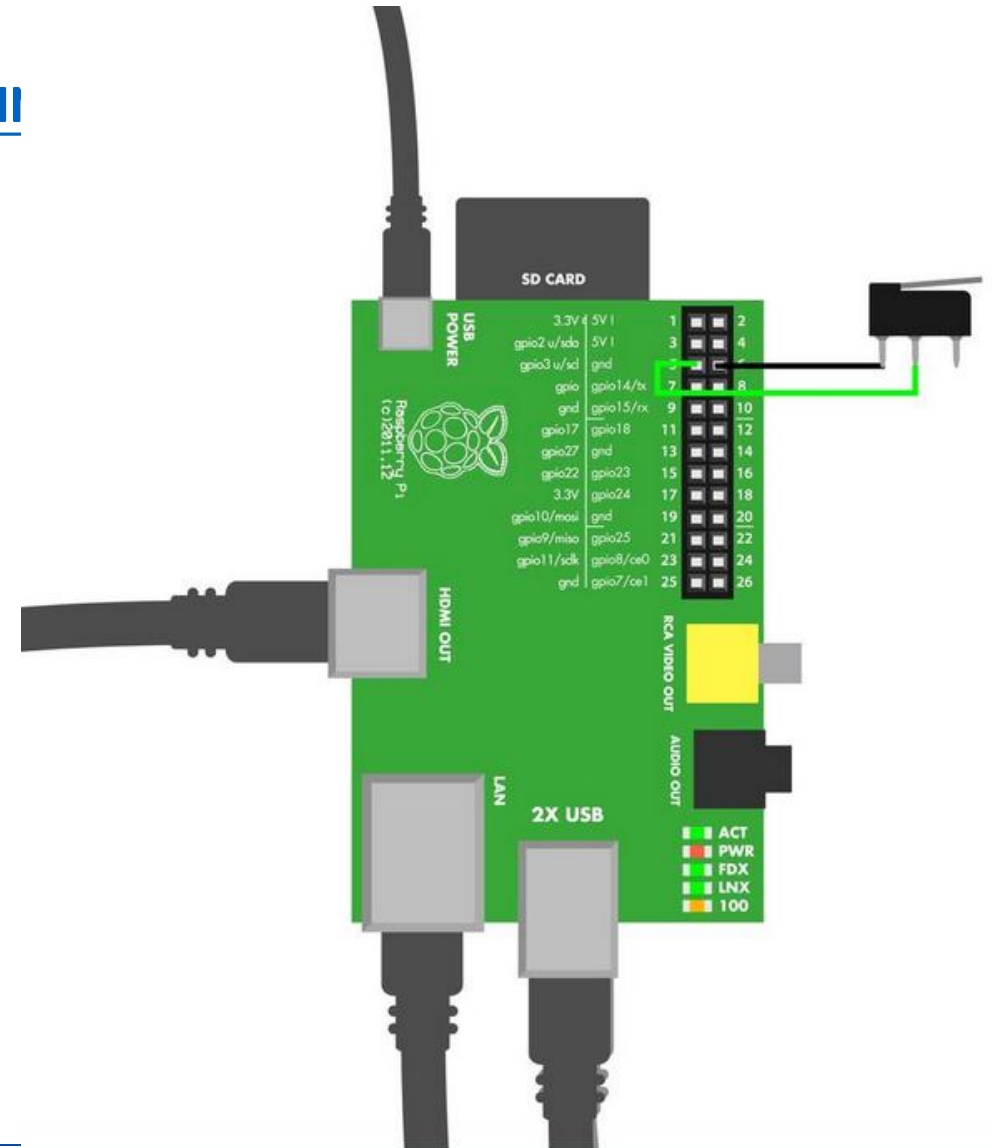

Figure 5-8. Microswitch circuit for Raspberry Pi
- Wire up the Raspberry Pi as shown in Figure 5-8 shown in Example 5-4.